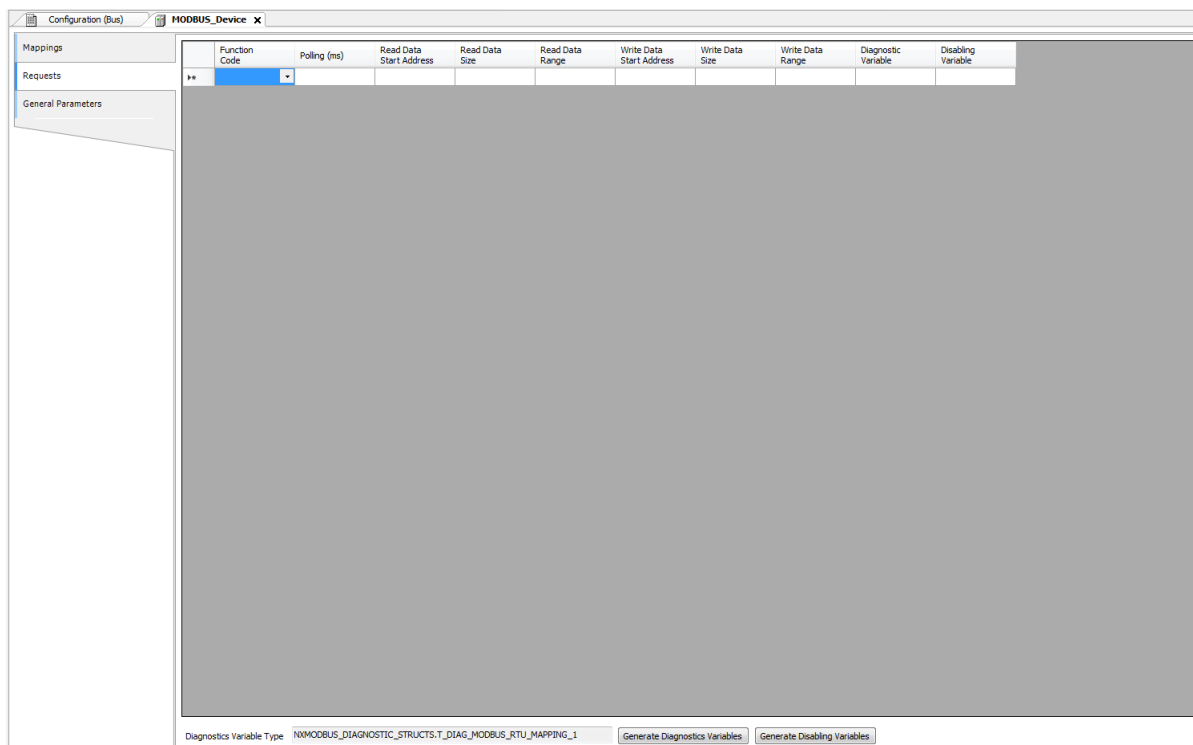

Figure 84: Data Requests Screen MODBUS Master
- Add and configure the MODBUS requests as presented in Figure 84, specifying the function, the scan time of the request, the starting address (read/write), the data size (read/write) and generate diagnostic variables and disabling the request via the buttons at the bottom of the window.